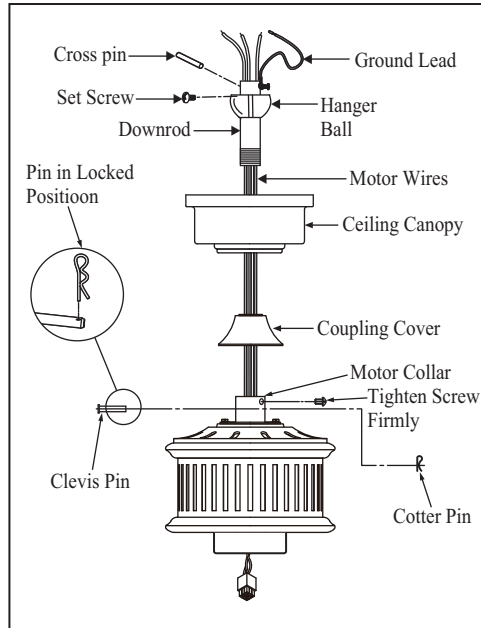

Figure 8
6. Carefully feed the motor wires up through the downrod. Thread the downrod into the collar. Align the holes and replace the clevis pin and cotter pin. Tighten the two collar setscrews. (Figure 8)
7. Slip coupling cover, canopy ring, and canopy onto the downrod. Carefully reinstall the hanger ball onto the downrod and reinstall the ground lead onto the downrod, being sure that the cross pin is in the correct position, the setscrew is tightened and wires are not twisted. (Figure 8)